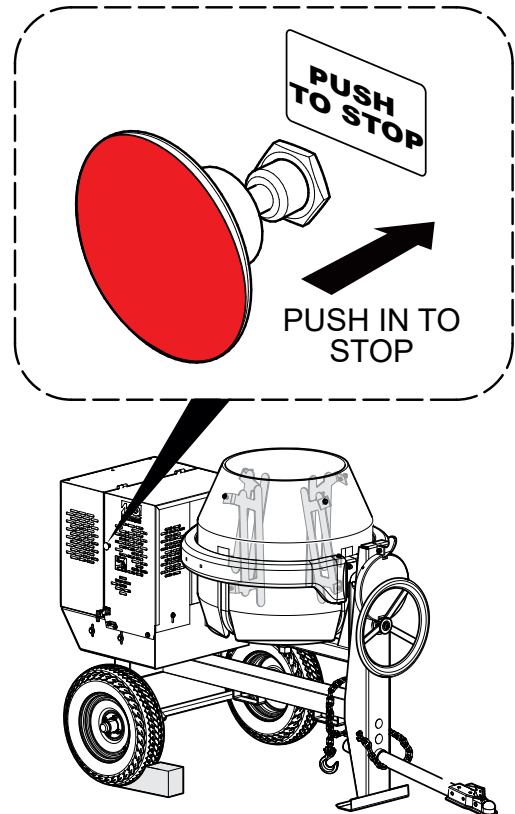

Figure 24. Start/Stop Button (Stop Position)
- Push the engine **start/stop** switch (Figure 24) inward to stop the engine.